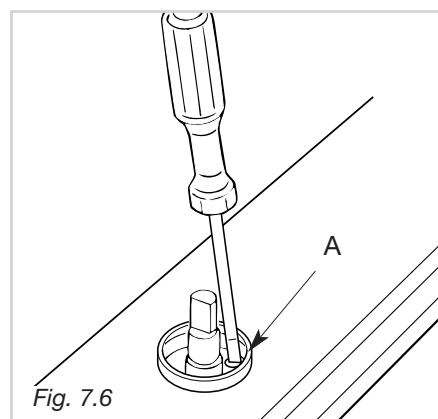

Fig. 7.6
**On gas valves provided with adjustment screw on the valve body (fig. 7.6):**